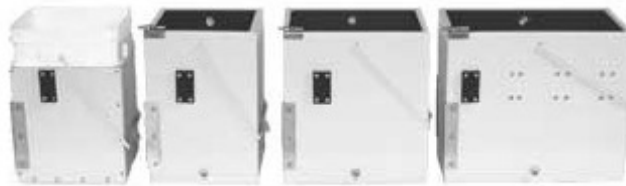

Figure 11 - SB-3C Impinger Box Caddy, SB-3 Impinger Box, SB-4 Impinger Box, SB-5 Impinger Box
- Four different removable insulated Cold Boxes (Impinger Cases) are available: SB-3 holds 4 impingers, SB-4 holds 8 impingers, SB-5 holds up to 14 impingers and the SB-3C accepts inexpensive removable liners. Figure 11 depicts the standard impinger box configurations available from Apex Instruments.